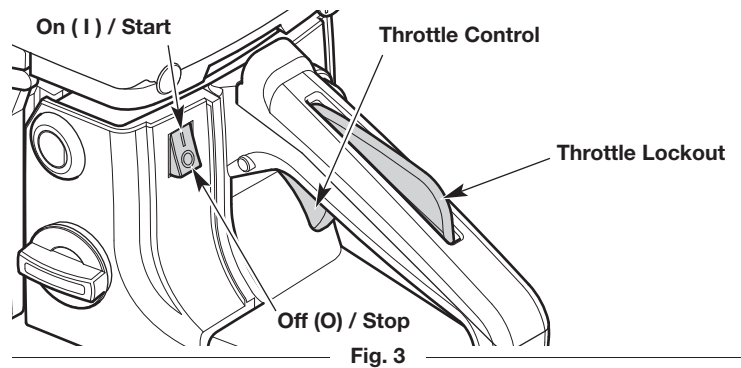

Fig. 3
5. Move the On/Off switch to the **On** position (Fig. 3).
- NOTE: DO NOT** touch the throttle control until step 14 (Fig. 3).
8. **DO NOT** touch the throttle control (Fig. 3). Set the unit on a flat, level surface. Clear the area of any objects that could contact the saw chain.
2. Move the On/Off switch to the **Off** position (Fig. 3). Wait for the saw chain to come to a complete stop.